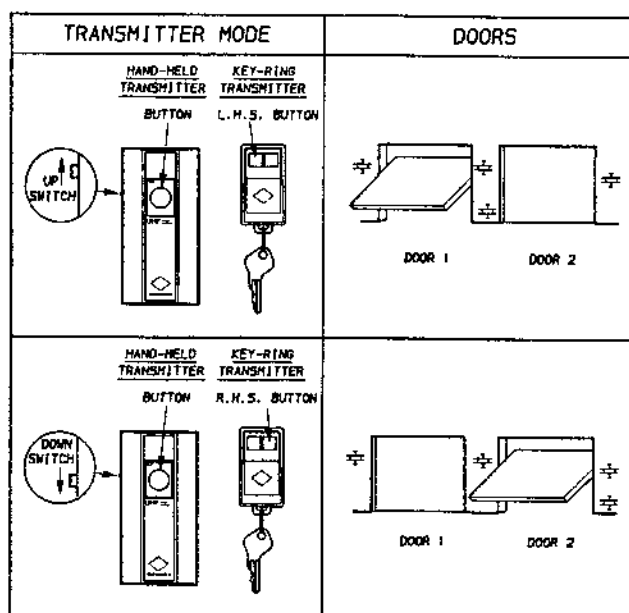

Figure 18
- When setting the code in the second garage door opener, move the side switch on the transmitter to the down position (Figure 18) and follow the procedure from Step 18-2) above.
- To activate the first garage door opener with the transmitter, the side switch must be in the up position. To activate the second garage door opener, the side switch must be in the down position (Figure 18).